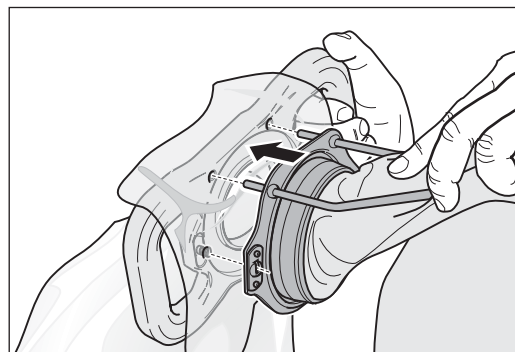

Fig. 26 Insert the dust bag with fixing plate into the emptying fixture.
- 10 Insert the dust bag with fixing plate into the emptying fixture. Make sure that the dust bag rods are in the correct position: The pins must fit into the openings provided (fig. 26).
- 11 Apply light pressure to insert the fixing plate of the dust sack completely into the emptying fixture. The pins on the dust bag rods will pierce the waste bag and prevent it from slipping (fig. 26).